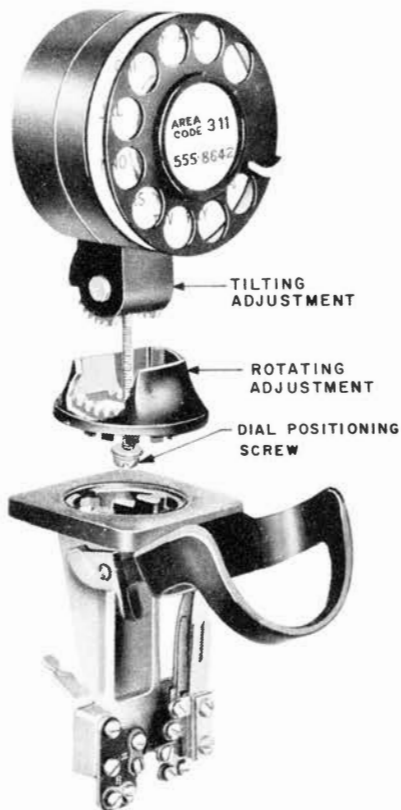

Fig. 15 — Positioning Adjustments of 43A Dial Mounting
6.05 The 41A and 43A dial mountings used with G-type handset mounting are arranged so dial may be rotated. Dial is locked in one of 12 positions, 30-degree intervals, by means of notches in base of dial mounting. Notches engage two studs at the top of handset mounting. Dial may be rotated as follows (see Fig. 15) :
6.06 The 43A dial mounting may also be tilted as much as 45 degrees backward in 15-degree intervals. Dial is tilted as follows (see Fig. 15) :